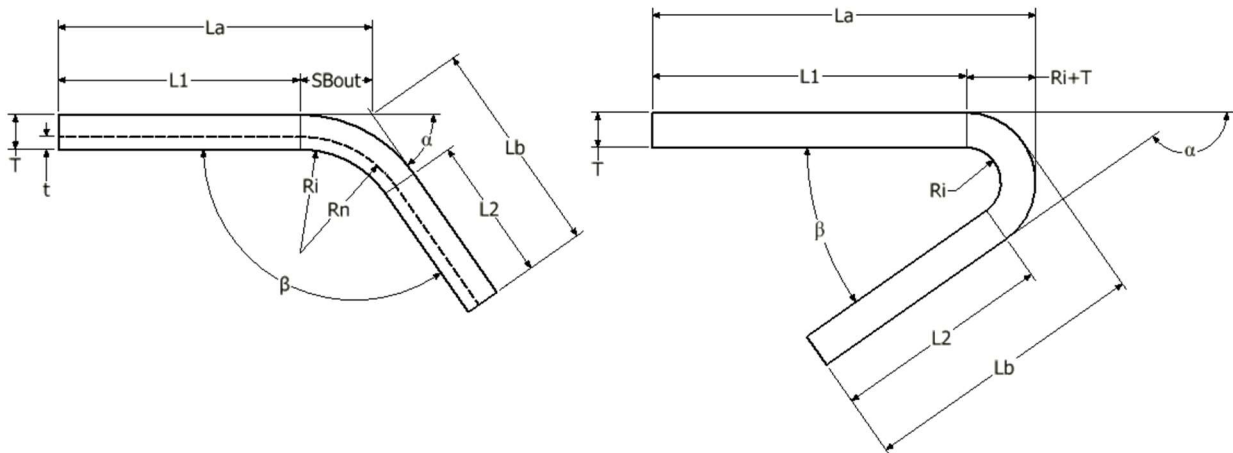

Figure 5 – Parameters used to determine Bend Deductions
What a person can reliably measure is shown in Figure 5, which are the lengths L_a and L_b . Experimentally the user knows the initial length of the test piece (L), and it is known that the outside of the metal is stretching, so the following can be deduced: